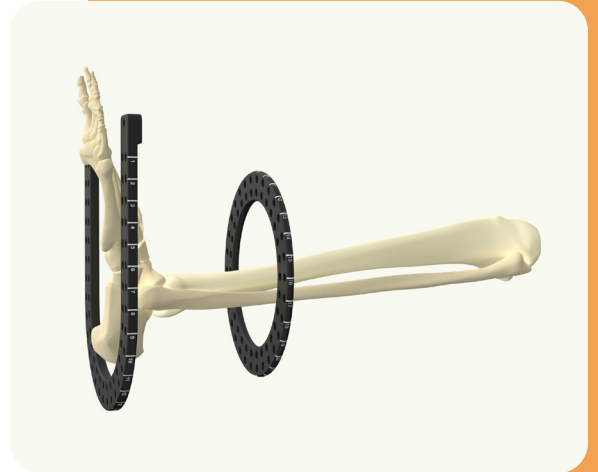

Fig. 4a - Position Foot Ring
- 3 Position Ring so that the foot is centered and parallel (Fig. 4a).